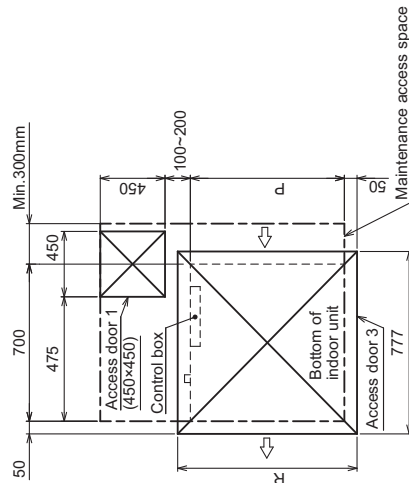

Fig. 4 (Viewed from the direction of the arrow B)
- Create access door 1 diagonally below the control box and access door 3 below the unit as shown in Fig. 4.
· Create access door 1 diagonally below the control box and access door 3 below the unit as shown in Fig.4.
[Fig.4] (Viewed from the direction of the arrow B)